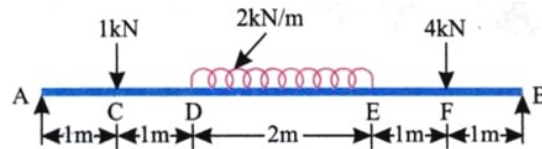

Figure 3
12. (a) A simply supported beam of length 6 m, carries the uniform distributed load and two points of load as shown in figure 3. Draw the shear force diagram and bending moment diagram for the beam. Also calculate the